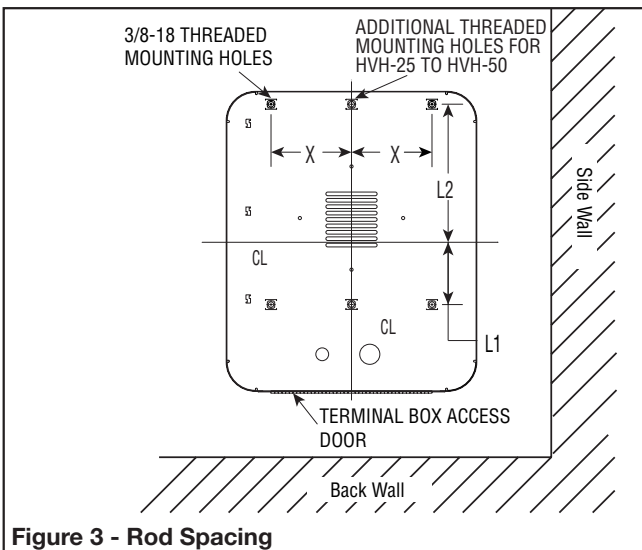

Figure 3 - Rod Spacing
- It is recommended that the heater only be used with ceiling heights of 12 feet or greater. Minimum spacing to ceiling is 6 inches, use 3/8-18" thread stock (supplied by others) as shown in Figure 3.
- The heater can be rod mounted to the ceiling by installing four (4) threaded mounting rods in the threaded holes located on the top of the heater as shown in Figure 3. (Refer to Table C for mounting rod thread size.)
5. The bottom access door is hinged. There are two screws that must be removed to gain access (Fig. 3).